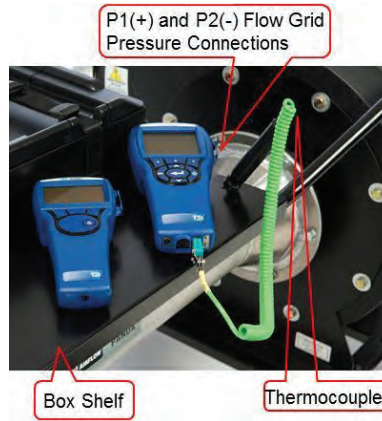

Figure 10. Connecting Instruments to PANDA Tester in High Flow Mode
3. Connect the Model 9565-P to the PAN231 by connecting the (+) and (-) ports on the Model 9565-P to the **P1 (+)** and **P2 (-)** ports located on the inside edge of the box shelf facing the fan. See Figure 10.